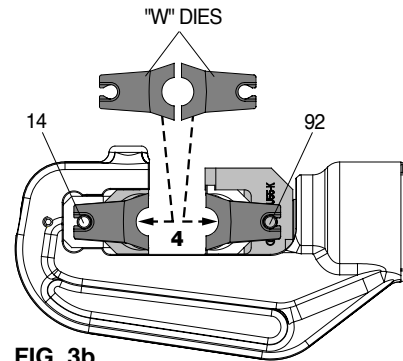

FIG. 3b
- Press pins (14 and 92) and insert one "W" die into the upper adaptor AU55-B and the other into the lower adaptor AU55-B (4) (see Fig. 3b); to disassemble them it will be sufficient to press the pins and to slip them from the head.